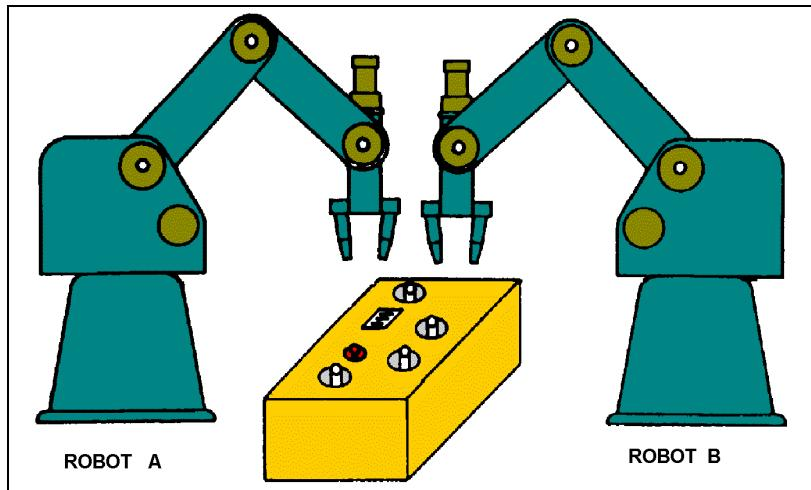

Figure 7-8
- Q** *Describe an application in which two robots are synchronized by means of inputs and outputs. Use Figure 7-8 to help you with your answer.*